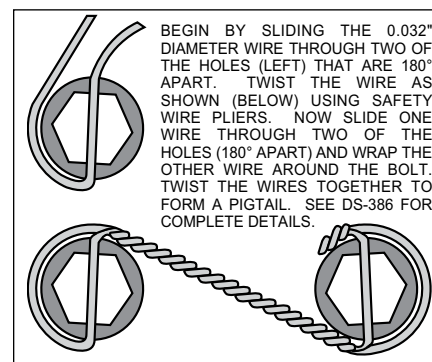

Figure 2. Safety Wire Diagram
- Safety wire bolts (6) using standard 0.032 inch diameter stainless steel safety wire as shown in Figure 2. Please refer to Wilwood's data sheet DS-386 (available at www.wilwood.com/Pdf/DataSheets/ds386.pdf) for complete safety wire installation instructions.